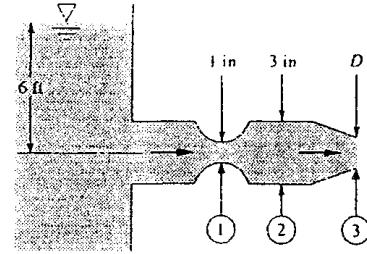

Fig. P3.172
**3.172** The 35°C water flow of Fig. P3.172 discharges to sea-level standard atmosphere. Neglecting losses, for what nozzle diameter  $D$  will cavitation begin to occur? To avoid cavitation, should you increase or decrease  $D$  from this critical value?